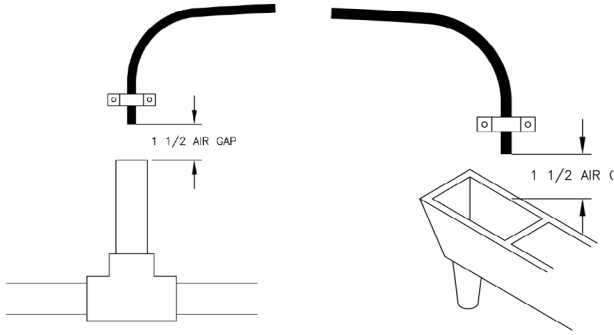

Figure 7: Also be sure drain line has an air gap.
2. If the drain line is a 5/8" outside diameter X 1/2" inside diameter flexible poly tube, slide the nut onto the poly tube, then place the poly tube insert into the end of the poly tube and tighten the nut on to the 3/4" drain line fitting. The nut is only designed for use with flexible poly tube. Use other nuts if attaching different materials. Run line to a drain. Making sure you have a 1 1/2" airgap. You may use a floor drain, standpipe or any open type drain (see Fig. 7 on page 16).